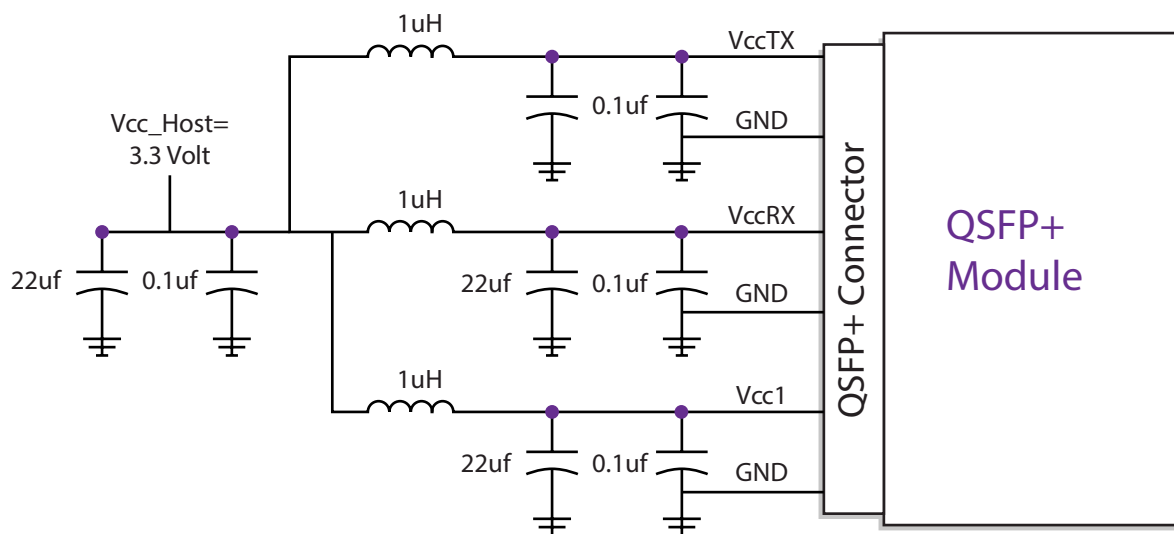

Figure 3. Recommended Power Supply Filter
2. VccRx, Vcc1 and VccTx are the receiving and transmission power suppliers and shall be applied concurrently. Recommended host board power supply filtering is shown in Figure 3 below. Vcc Rx, Vcc1 and Vcc Tx may be internally connected within the QSFP+ transceiver module in any combination. The connector pins are each rated for a maximum current of 500mA.